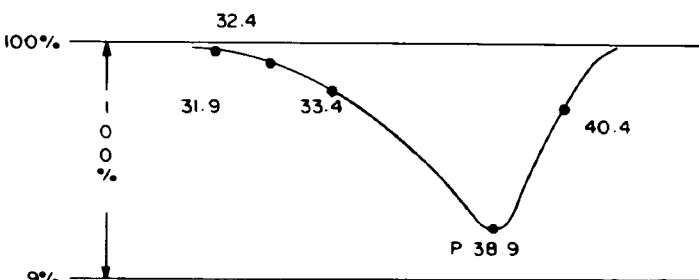

Figure 2
- Adjust L102 ((Detection Special Quality Adjustment Coil) on the main board in order to minimize the Picture Carrier Mark as shown in figure 2 (For Mark Frequency of Each System, refer to the below note (*)).